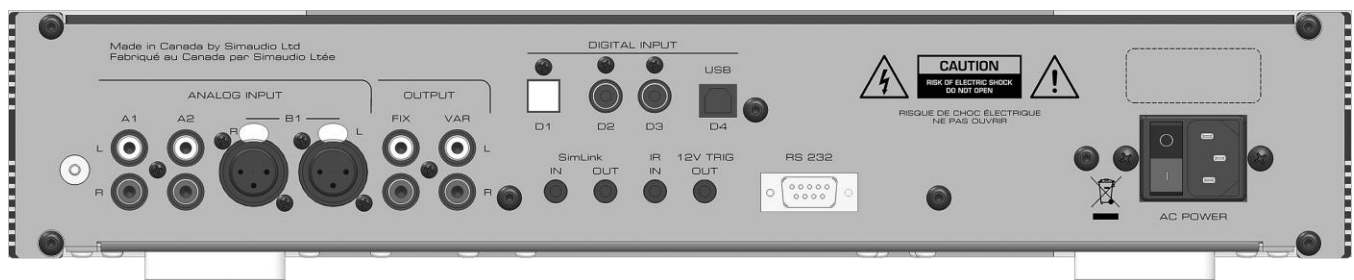

Figure 2: MOON 430HA Rear panel
The rear panel will look similar to Figure 2 (above). There are two (2) pairs of single-ended analog inputs on RCA connectors labeled “A1” and “A2” followed by one (1) pair of balanced analog inputs on XLR connectors labeled “B1”. The RCA input and output connectors on the rear panel have been color coded: ‘white’ for the left channel and ‘red’ for the right channel.